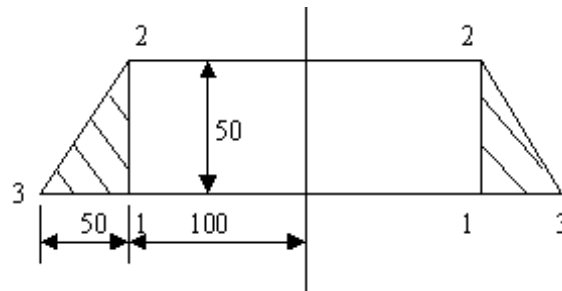

Figure 4
8. An axisymmetric ring element is shown in figure 4. Derive the matrices, $[B]$ and $[D]$. Take $E = 2 \times 10^5 \text{ N/mm}^2$ and $\mu = 0.33$. [16]